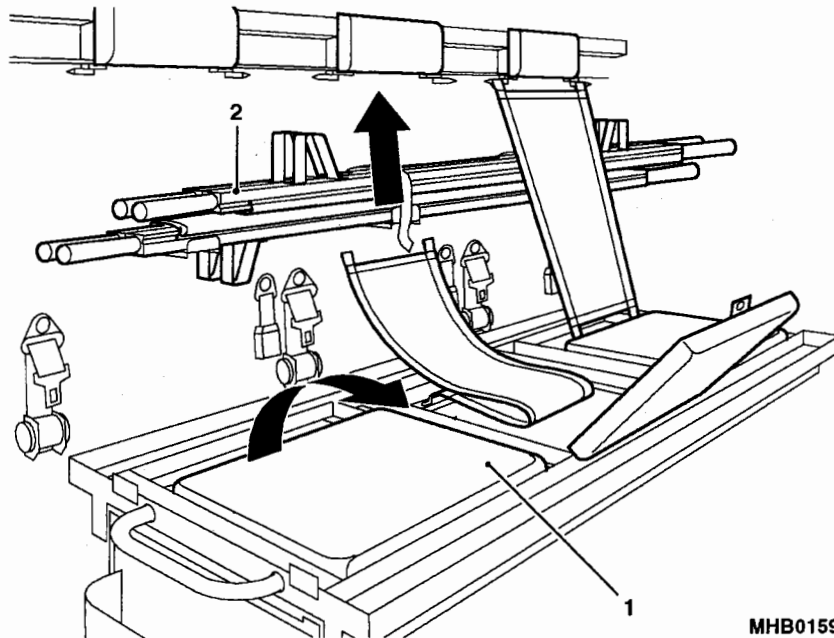

Fig 6 Passenger seats
- 9.2 From under the seat slabs (Fig 6 (1)) remove the back supports and secure to the underside of the head pads.